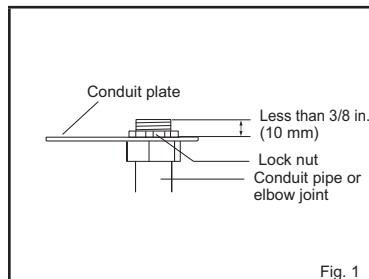
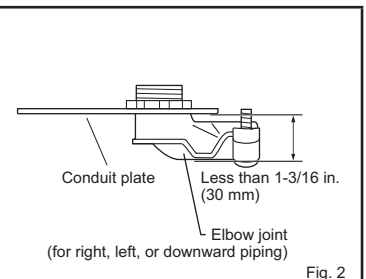

Fig. 1
Fig. 2
- Attach conduit pipe (for rear piping) / elbow joint (for right, left, or downward piping) to conduit plate with lock nut. The thread of the installed conduit pipe / elbow joint appearing inside should be less than 3/8 in. (10 mm). (Fig. 1) Elbow joint should appear less than 1-3/16 in. (30 mm) outside. (Fig. 2)
- Pull out the drain cap at the back right of the indoor unit. (Fig. 1)
- Pull out the drain hose at the back left of the indoor unit. (Fig. 2)
- The drain hose should point downward for easy drain. (Fig. 1)
- If the drain hose provided with the indoor unit is too short, connect it with a field-supplied drain hose (I). (Fig. 2)
- 1) Cut the copper pipe as straight as possible with a pipe cutter. (Fig. 1, 2)